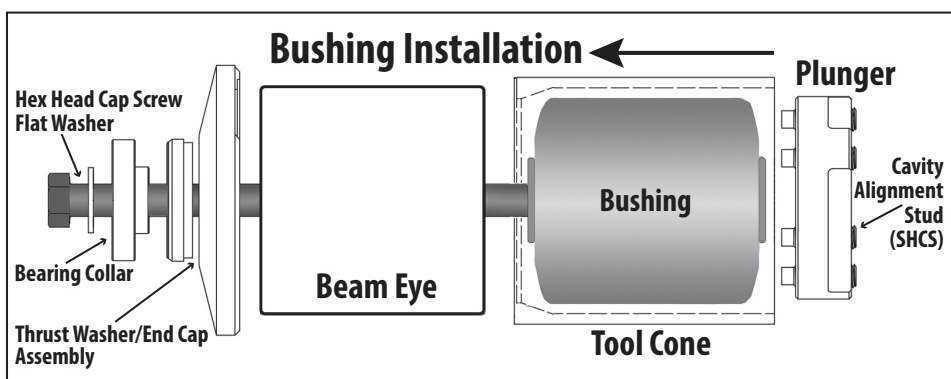

Figure 3.
Place the flat washer, the bearing collar, and the end-cap assembly on the hex-head bolt. Insert the smooth end of each Cavity Alignment Stud (Socket Head Cap Screw- SHCS) into the four holes on the outside edge of the bushing tool plunger. Tighten alignment stud (SHCS) until the socket head(s) is flush with the edge of the plunger. Smooth end(s) should extend beyond the inside edge of plunger (Figure 3).
4. Line up locator mark on the plunger with the locator mark on the bushing. Insert the four cavity alignment studs into the bushing cavity holes and press the plunger firmly against the end of the bushing. NOTE: SHCS threads should NOT touch the bushing (Figure 3).